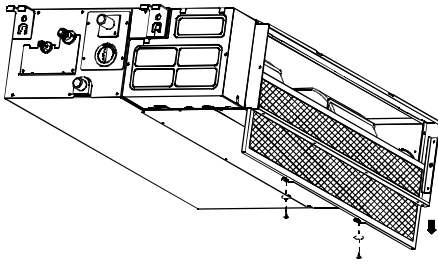

Fig.G1
1. Because the unit is a rear ventilated model, please remove the screws (2 pieces) fixed on the filter and pull the filter down away from the unit. See Fig.G1.